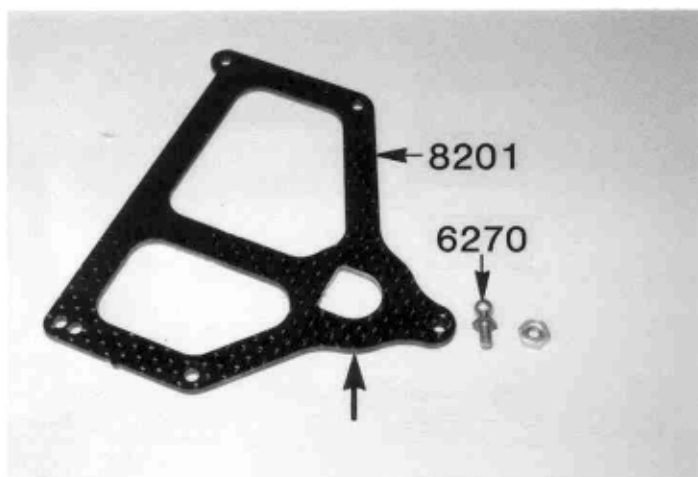

Fig. 35
□ **Figs. 35 & 36**— The arrow is pointing to the upper bracket where the dampner washers ride. Racer's Tip: The Expert Class racers will take some #600 grit wet or